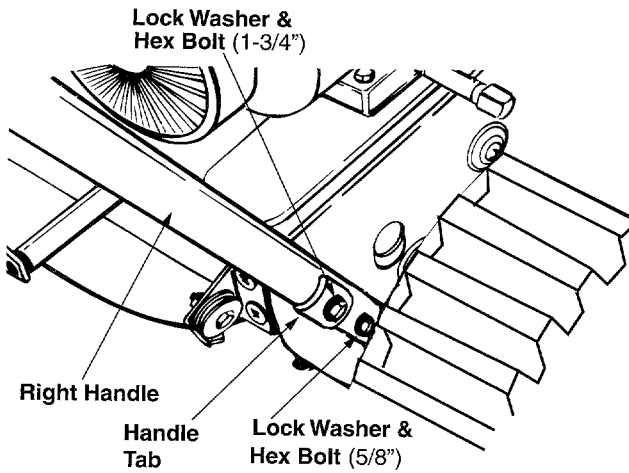

Figure 2
thrower using 5/16 x3/4" hex bolt and lock washer from the hardware pack (group A on page 6). Do not tighten at this time. See Figure 2.
- Place a handle tab, included in the hardware pack (group A on Page 6), over the upper hole in handle so that the contour of the handle tab matches that of the handle. See Figure 2.